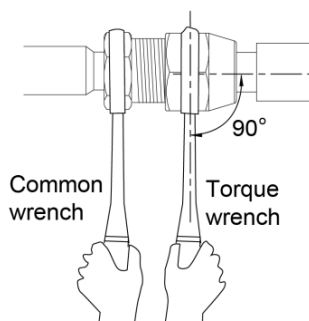

Fig. 4.3.5
- (3) Use torque wrench to twist on the flared nut tightly until the wrench gives out a click sound. (Hold the handle of wrench and make it at right angle to the pipe. as in Fig.4.3.5)
- (4) Use sponge to wrap the un-insulated connection pipe and joint. Then tie the sponge tightly with plastic tape.
- (5) Connection pipe should be supported by a bearer rather than the unit.
- (6) The bending angle of piping should not be too small; otherwise the piping might have cracks. Please use a pipe bender to bend the pipe.
- (7) When connecting IDU with connection pipe, do not pull the big and small joints of IDU with force in case the capillary tube or other tubes have cracks and cause leakage.